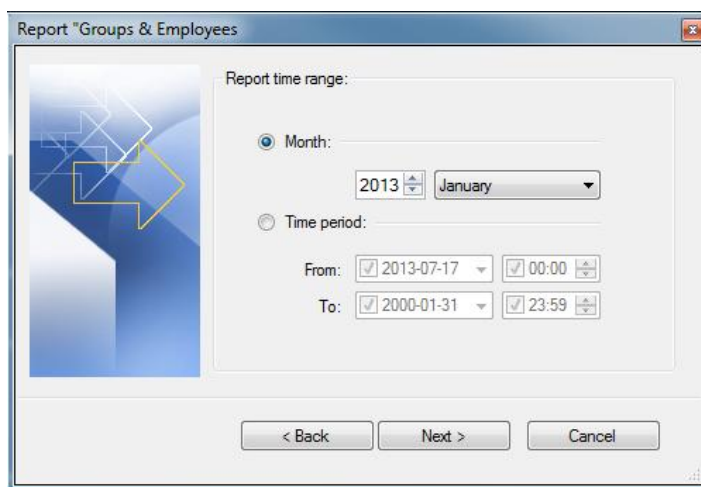

Figure 49. Selecting time range for generating chosen reports
Step 2. Choose period, for which the reports selected will be prepared (figure 49)